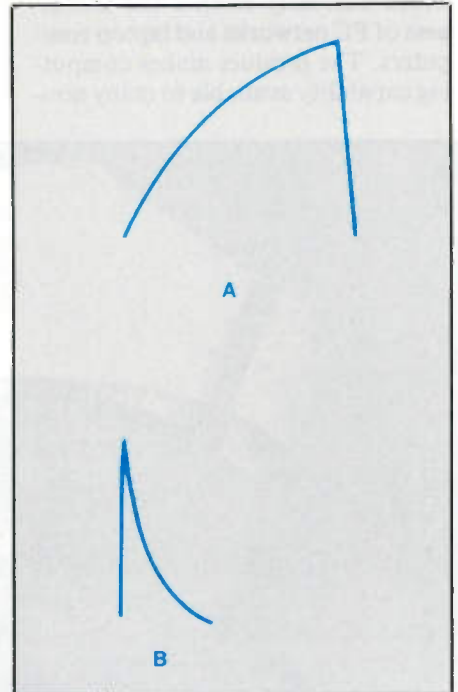

Figure 3
9. Which of the waveforms in Figure 3 is obtained from a UJT?